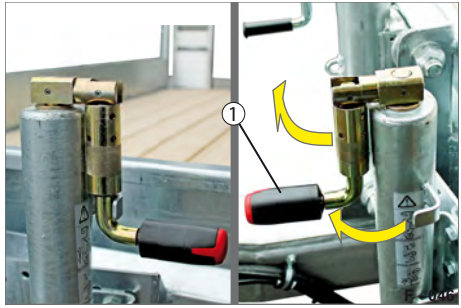
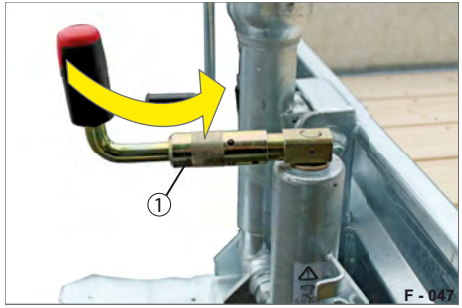

Fig. 27 Unlocking crank
Fig. 28 Cranking up support wheel
- ▶ Fold the crank handle (Fig. 27/1) upwards until the snap catch (Fig. 28/1) engages. The crank is unlocked.